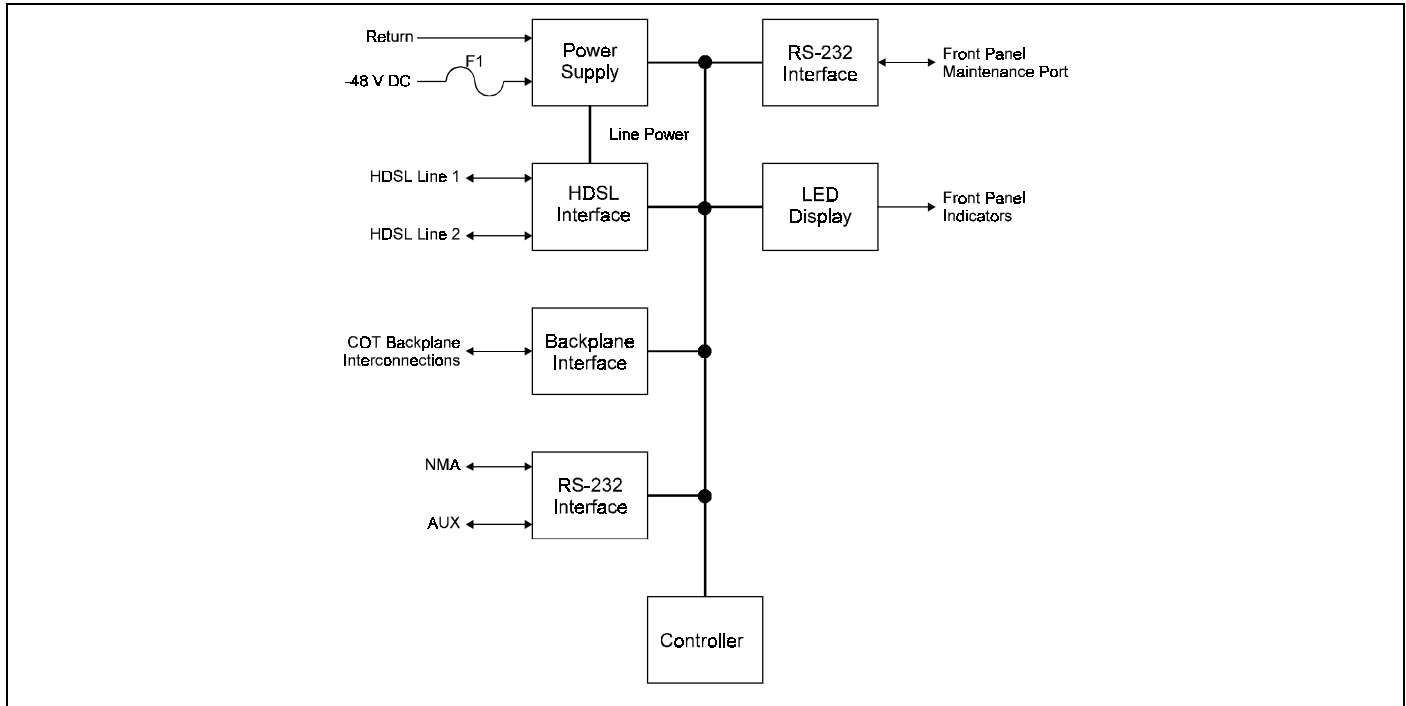

Figure 3. FLL-722 COT Line Unit Block Diagram.
6.02 A block diagram of the FLL-722 is shown in Figure 3. The power supply isolates and converts CO battery into the voltages used by PG-Flex, including ± 130 V dc, which is simplexed onto the HDSL lines. During power-up, the system automatically checks for HDSL line conditions which may indicate a problem with the line or which may present a potentially hazardous condition for the technician; under these conditions, PG-Flex will not complete the power-up process and indicate a line problem on the front panel LED indicators.